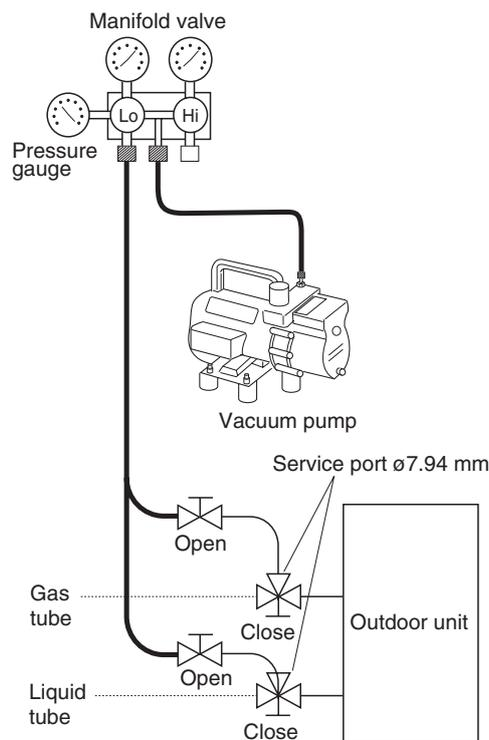

Fig. 2-36
- When the desired vacuum is reached, close the “Lo” knob of the manifold valve and turn off the vacuum pump. Confirm that the gauge pressure is under -101 kPa (-755 mmHg, 5 Torr) after 4 to 5 minutes of vacuum pump operation. (Fig. 2-36)